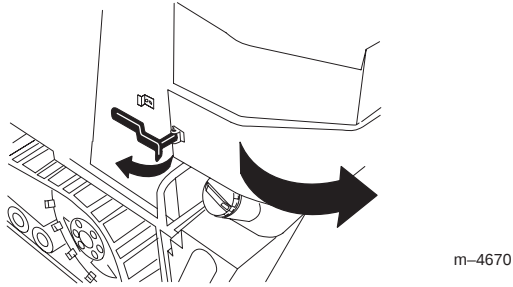

Figure 18
1. Pull out and forward on the latch to remove it from the locking bracket on the traction unit frame (Fig. 18).
- Swing the rear access cover to the right (Fig. 18).
- Place the latch over the locking bracket (Fig. 18).
- Pull the latch rearward and push it in to lock it in place (Fig. 18).